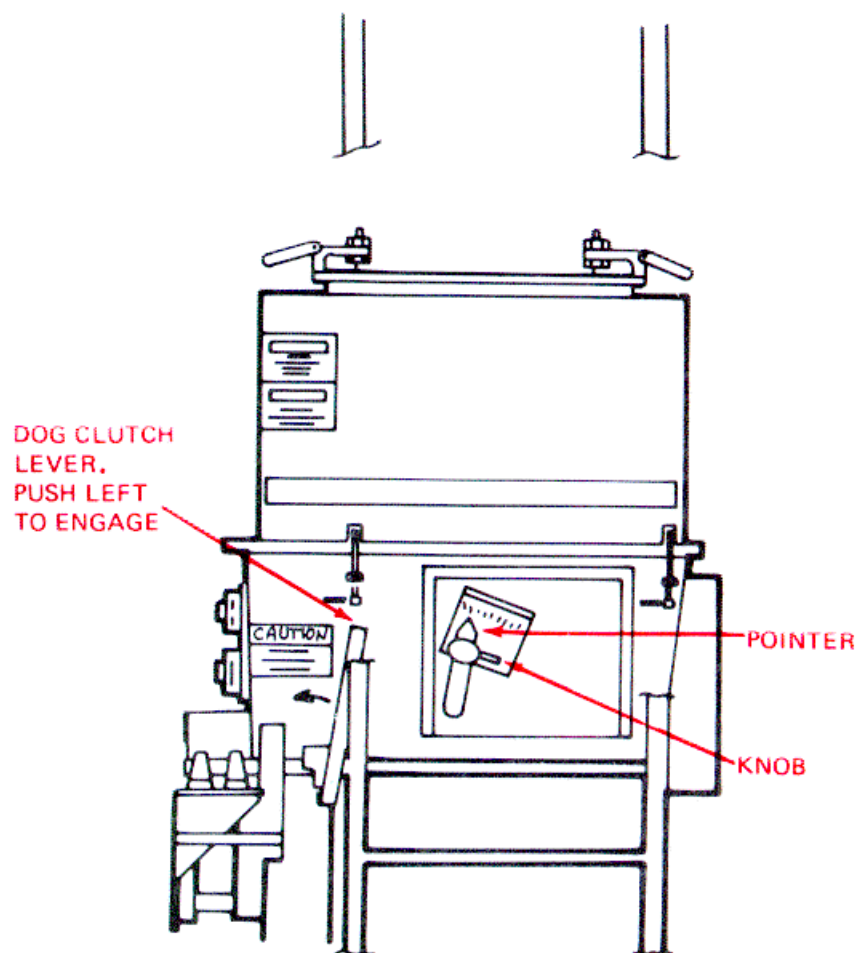

Figure 2-34. Dry Admix Controls.
b. Set Dry Admix Controls. (See. fig. 2-34.)